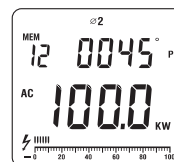

Figure 11
- After sum up the current power measurement value of the first phase, then press **SELECT** to choose the second phase Ø2, as figure 11